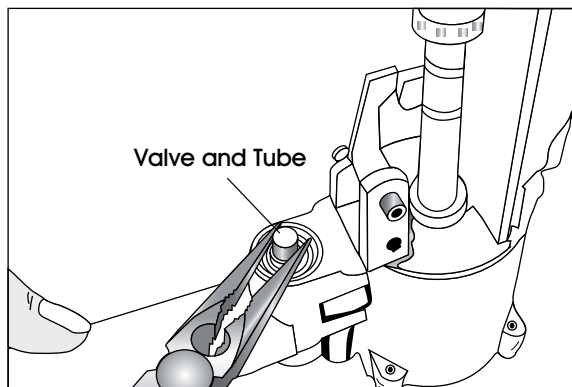

Figure 30
4. Remove valve and tube with needle nose pliers. (See Figure 30)